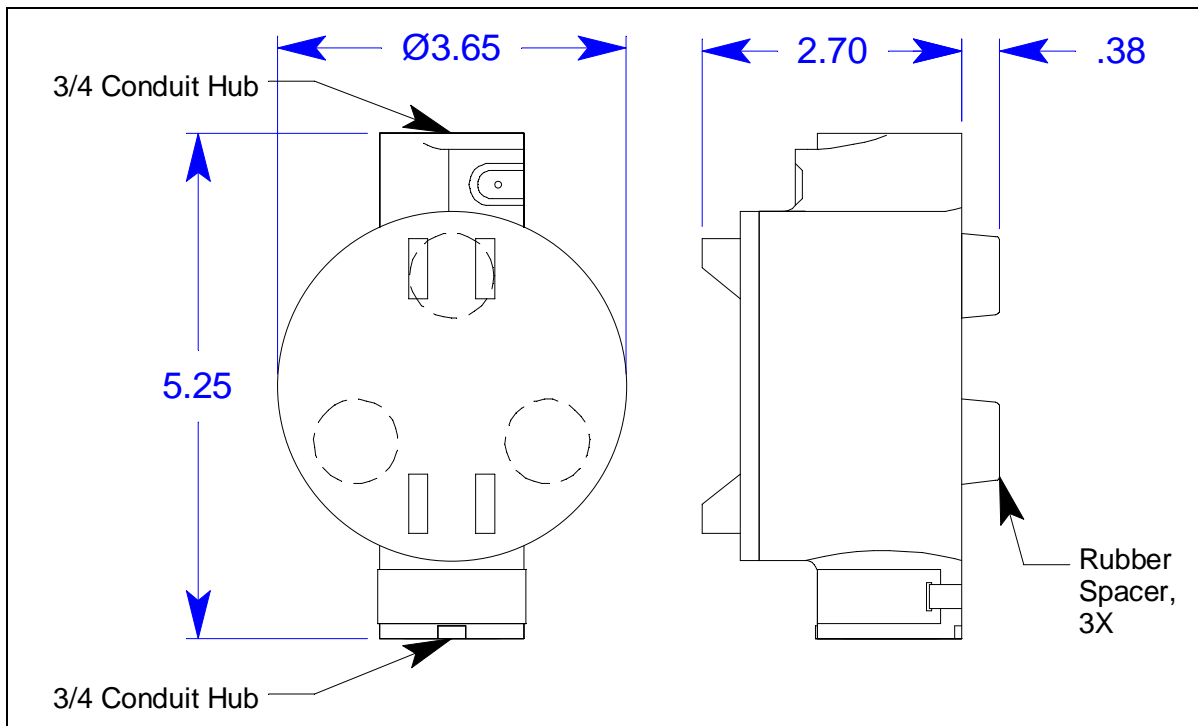
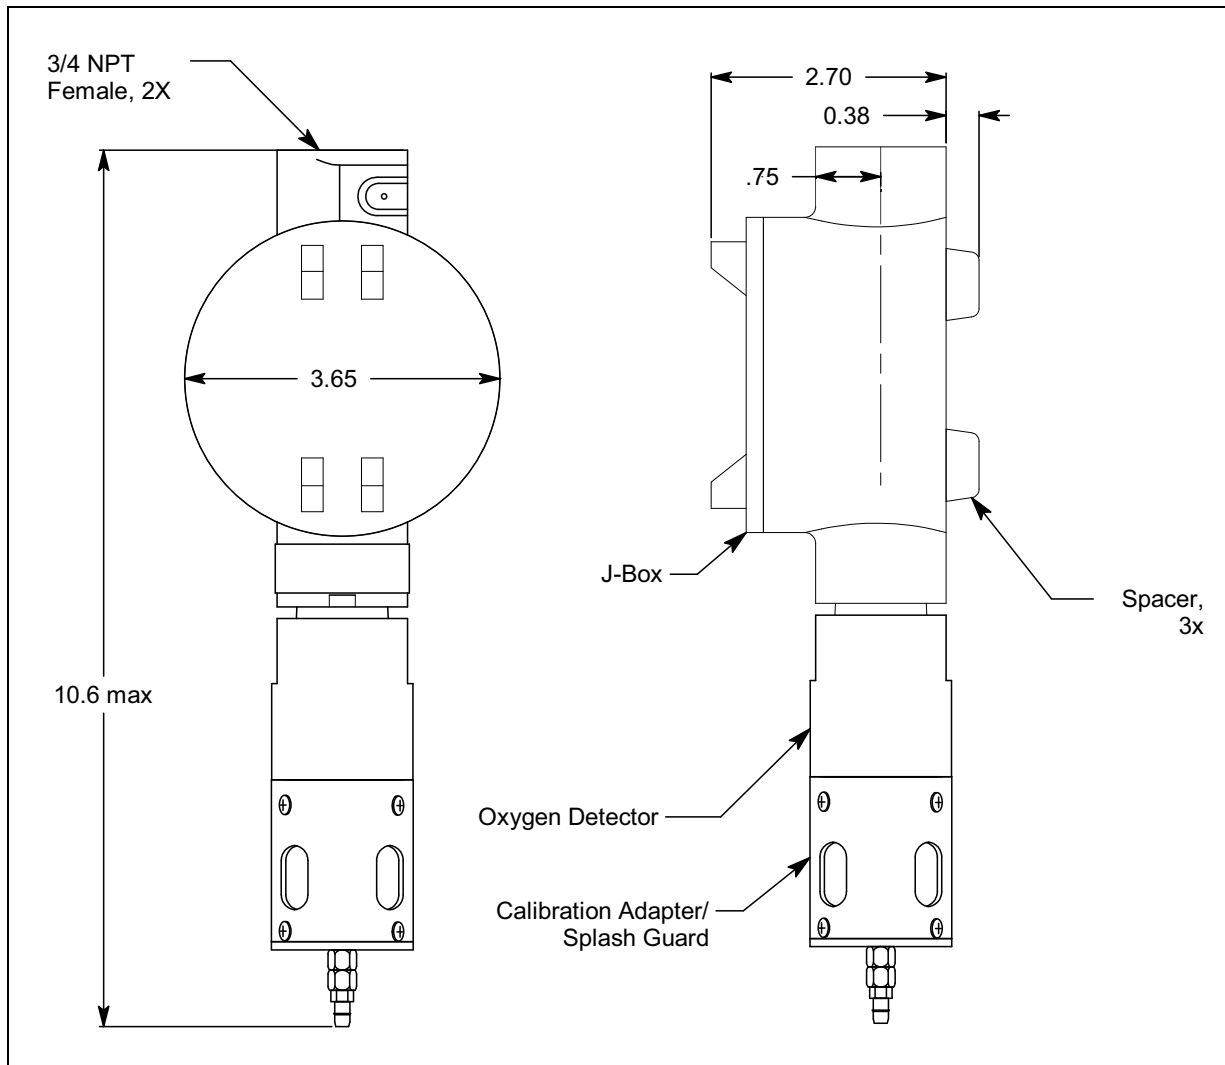

Figure 3: Amplifier Junction Box Dimensions
Figure 4: Detector Junction Box Dimensions
2. Amplifier junction box dimensions are shown in Figure 3. Detector junction box dimensions are shown in Figure 4.
3. At the monitoring site you select, hang or mount the detector junction box with the detector facing down (see Figure 4).